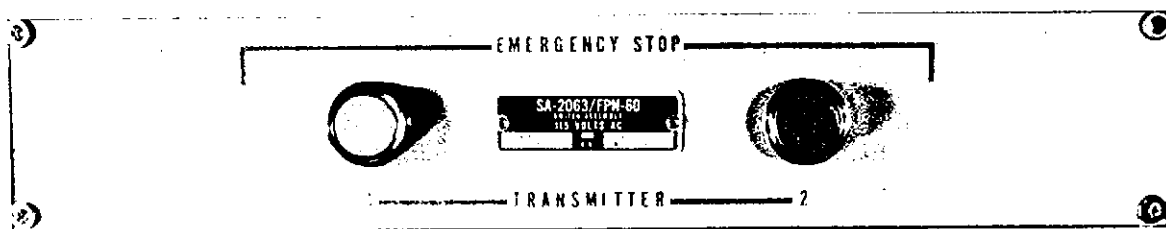

Figure 1.3. 1A1-Switch Assembly (SA-2063/FPN-60)
1.3.1 Switch Assembly (1A1). The Switch Assembly (Figure 1.3) contains an emergency stop pushbutton for each transmitter. These switches provide for the shutdown of power to the transmitters to prevent injury to personnel or damage to equipment. These switches are connected in series with the transmitter stop and emergency stop switches in the associated transmitting equipment (refer to the applicable transmitting set technical manual for locations).